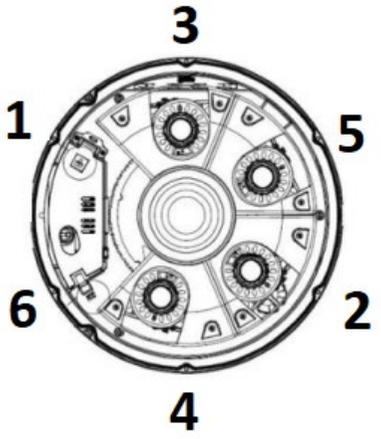

Figure 11
19. Use a screwdriver and approximately **75%** tighten each of the six-bubble trim-ring screws identified with a number in Figure 11.
**Note:** Figure 11 is a birds-eye view of the camera **with** the bubble trim-ring attached (as a result, the inside of the camera is not visible).
- **If the trim ring screws are tightened in a 'ring' pattern, there is potential that the trim-ring will not align correctly with the camera seal, allowing water to penetrate the camera body. When fitting the bubble trim-ring, it is important that the screws are tightened in a 'star pattern' as per the numbers in Figure 11.**